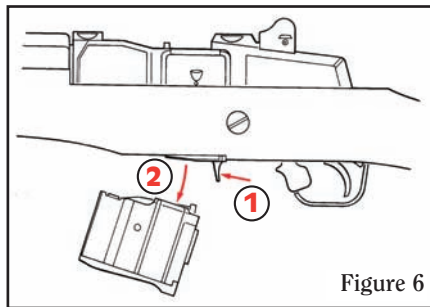

Figure 6
(Standard Mini-14 Ranch Model Shown in Figs. 6 - 14)
1. With the rifle pointing in a safe direction, safety "ON," remove the magazine by pushing catch forward to release magazine, while drawing magazine down and forward (see Fig. 6).